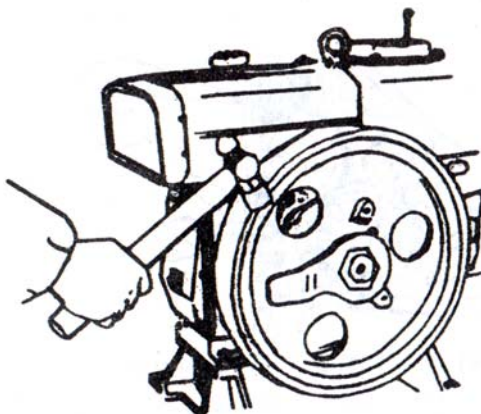

Fig. 2 Loosening the flywheel nut by knocking the handle of the wrench with a hammer.
3. Loosen the flywheel nut by means of a special wrench (knock the handle of the wrench with a hammer counter — clockwise, if necessary.), but do not screw it off (Fig. 2)